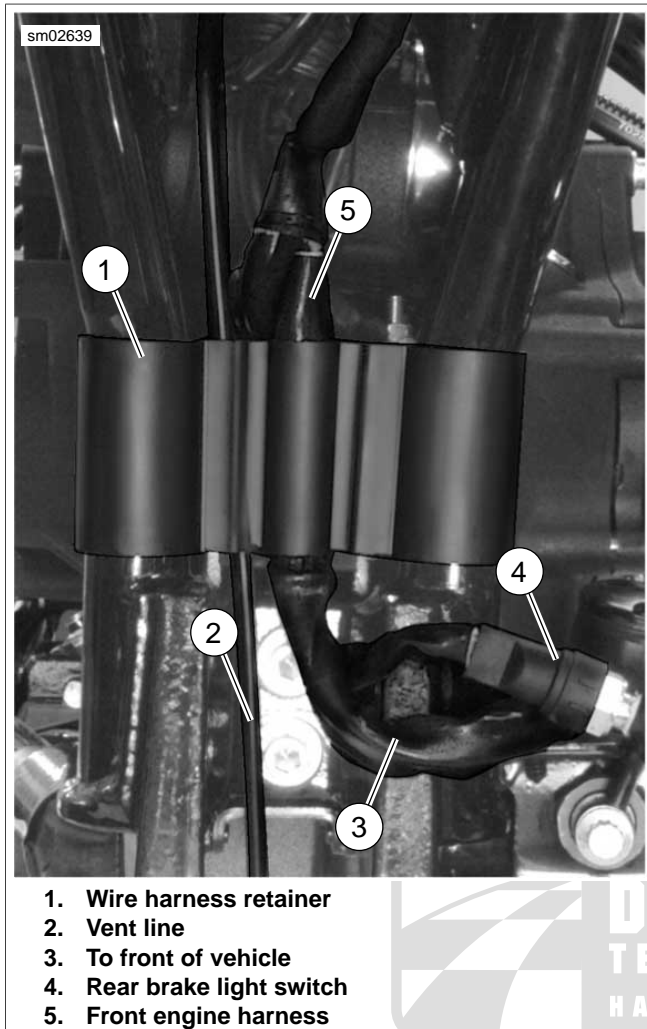

Figure 7-79. Main Wire Harness (Typical)
23. See Figure 7-79. Slide wire harness retainer up frame tubes. Remove harness retainer from frame and harness.
5. See Figure 7-79. Route engine harness (which contains voltage regulator connector [77], crank position sensor connector [79], stator connector [46] and front oxygen sensor [138] wiring to front of vehicle as shown. Install the oxygen sensor and crank position sensor connectors in front electrical caddy (see 7.17 CRANK POSITION SENSOR \(CKP\)). Connect the engine harness and stator connectors to the voltage regulator.
6. Route rear brake switch wiring (4) as shown and connect to rear brake switch.
11. Install wire harness retainer (1).
- See Figure 7-79. To prevent contact with rear fork, front engine harness (5) and rear brake switch wiring must be secured in wire harness retainer (1).
- If equipped with jiffy stand sensor (HDI models only), route the sensor harness up along the vent line (2) and secure in the same retainer cavity as the vent line.